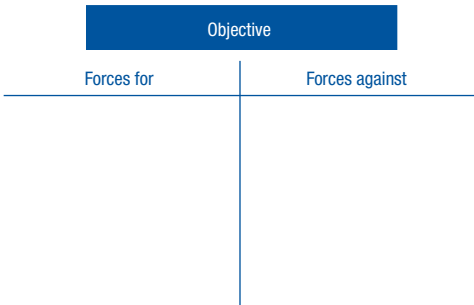

Figure 24 Force field analysis template.
3. Place the forces in a force field diagram (Figure 24), with the length of each arrow in the diagram proportional to the strength of the force it represents.